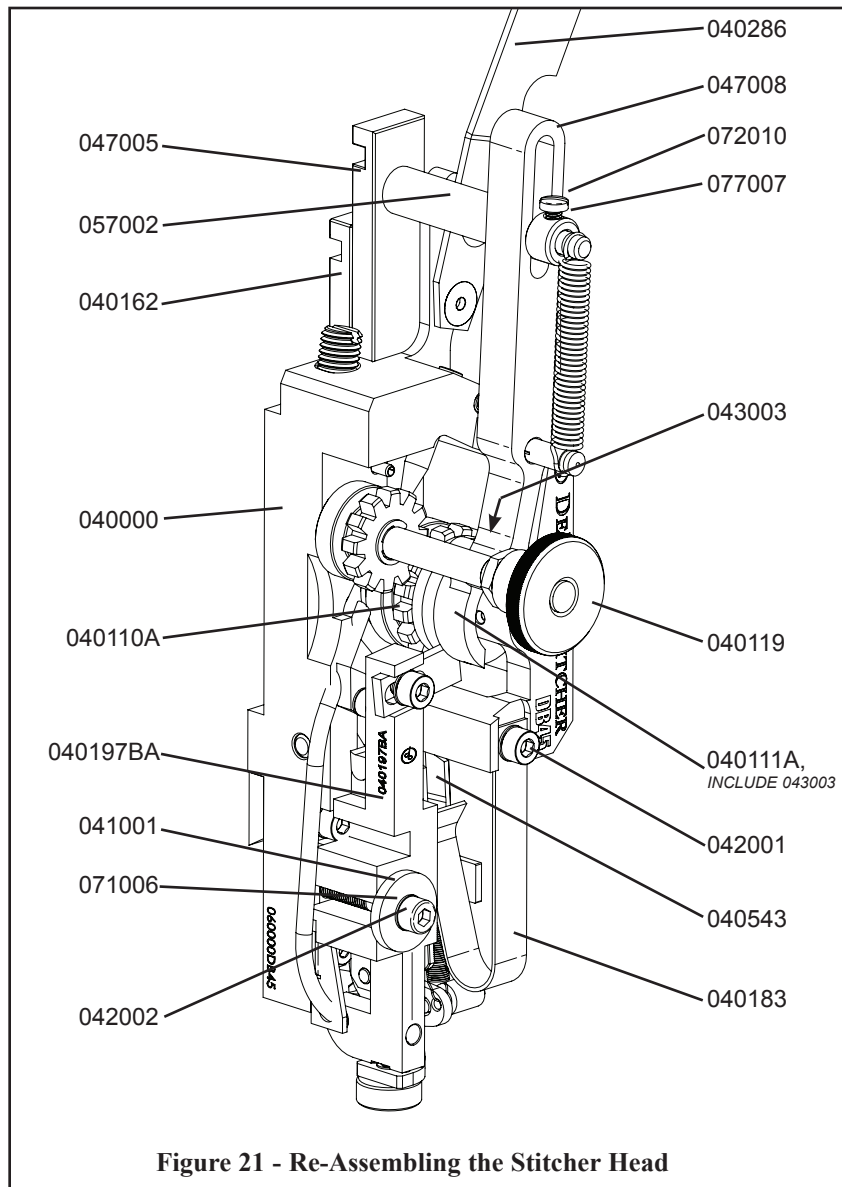

Figure 21 - Re-Assembling the Stitcher Head
Re-assembling the Stitcher Head (Figure 21)
1. Slip the Feed Gear Assembly over the Feed Gear Shaft (040114). Make sure it is pressed flush against the Bonnet (040000). The Pin (043003) on the Feed Gear Pinion Assembly (040111A) should be positioned just right of the Feed Release Handle (040119). (See **figure 21**)